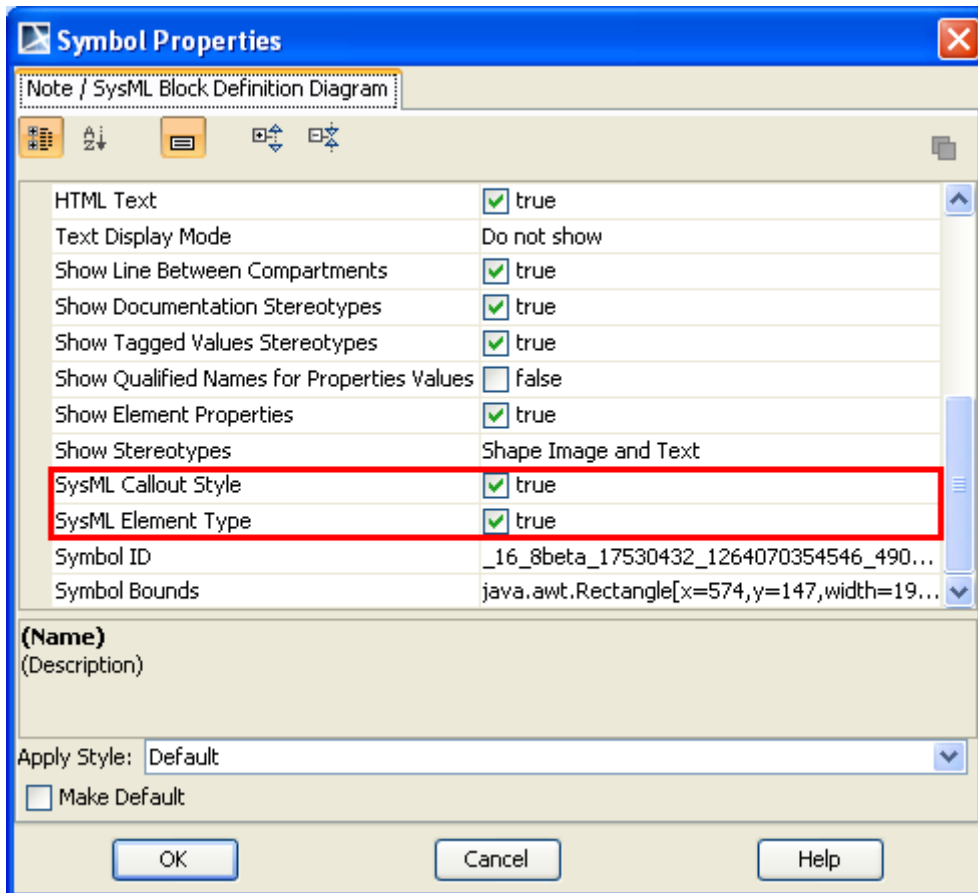

Figure 55 -- Symbol Properties Dialog of Callout Box
6. You can customize the display of the callout box using Symbol(s) Properties dialog of Note symbol (Figure 55).